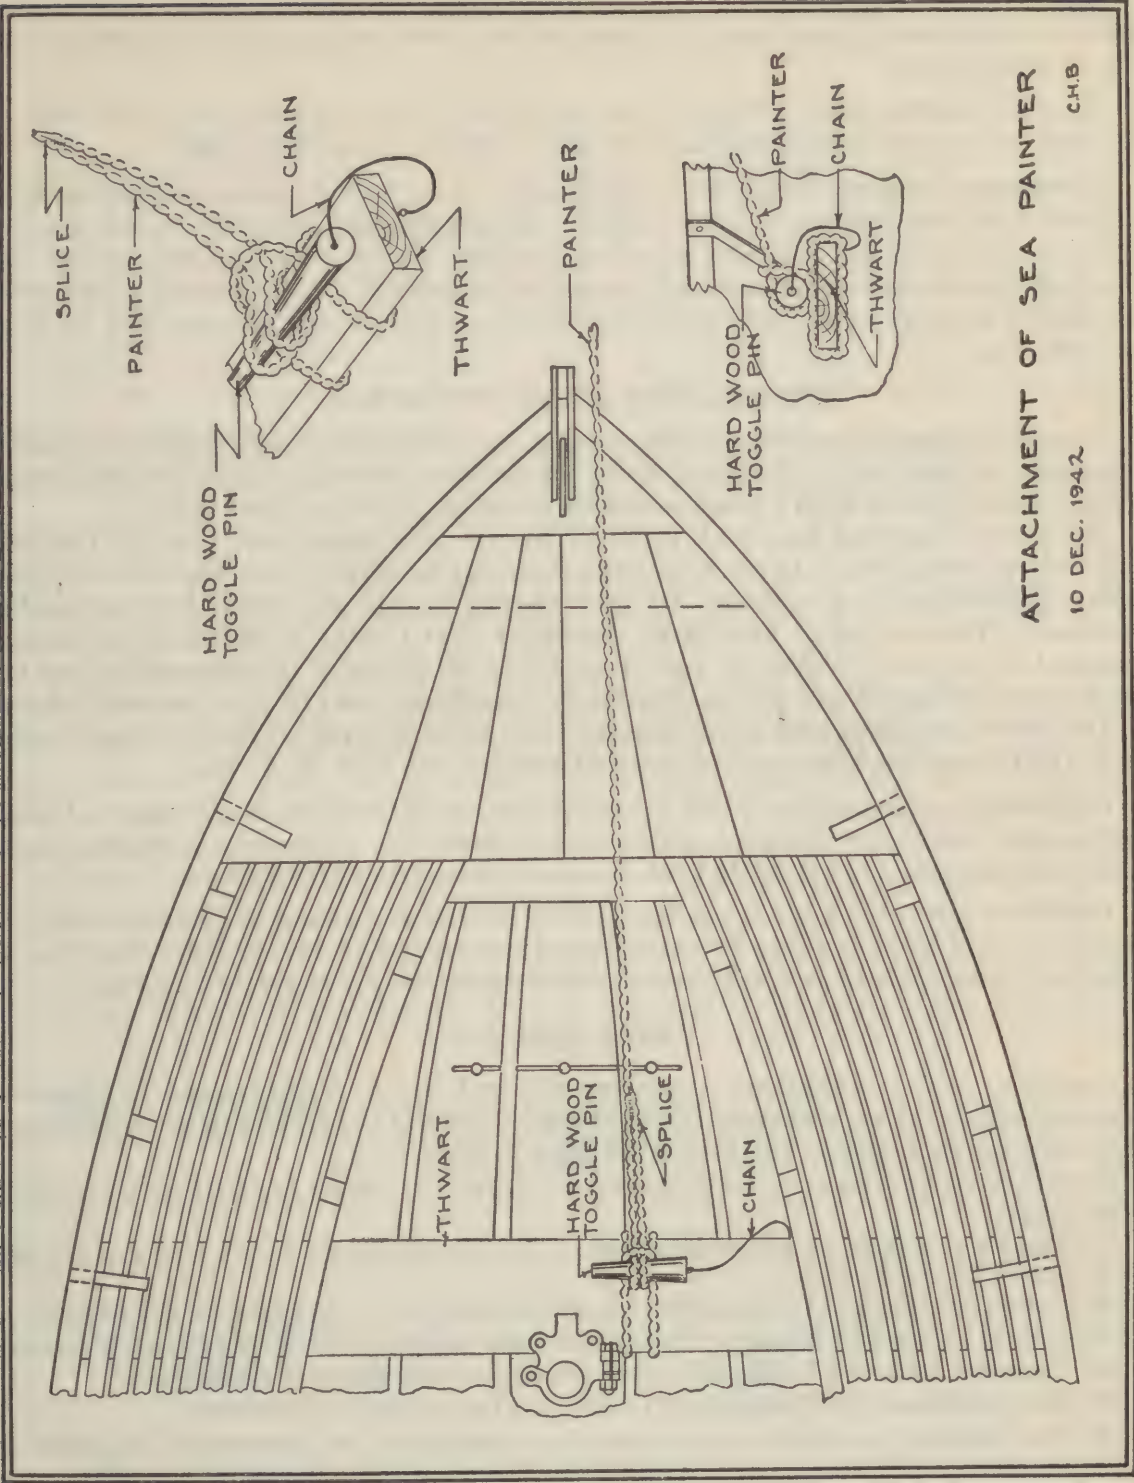

FIGURE 8.—Attachment of sea painter in lifeboat.
**Rig of painter under wartime conditions.**—Under peacetime conditions the boat's crew and the ship's officers can maneuver the ship, watch the sea, and await the most favorable opportunity for placing the boat on the water. The ship has no list nor is there the unavoidable confusion and noise attendant with the sinking and shifting of a vessel which has been torpedoed and is perhaps being shelled. It is desired, therefore, to point out that in order to prevent the sea painter from causing the boat to sheer and yaw after it is on the water and the survivors are coming down the lifesaving net, over life lines, or down the falls into the boat, certain precautions are necessary. Unless some means are provided to direct the pull exerted on the sea painter by the vessel's ahead motion to a point *far enough forward* in the lifeboat to decrease the tendency to sheer, serious accidents will occur. This is particularly true when the vessel is listed and the sea is moderately rough or choppy. To retain better control of the boat many masters and mates have fitted a strop of manila near the stem which can be passed over the sea painter and the free end passed under a thwart. Between the time the boat hits the water and the instant that all are on board and it is decided to cast off, the strop being pulled taut will more properly tow the boat parallel with the vessel's side. When the officer in charge is ready to pull away, the strop can be quickly released, the end thrown free, the boat then sheering away when the strain comes directly on a sea painter at the point where it is fast to the forward thwart. This tendency to sheer can and should, of course, be regulated by the use of the rudder or steering oar. These precautions should be carefully explained to all officers and men and they should be drilled in its use. Unless this is done, a repetition of serious accidents to boats (*after they are apparently safe over the side*), with a consequent loss of life, may be expected. See figure 8, "Sea painter attachment."